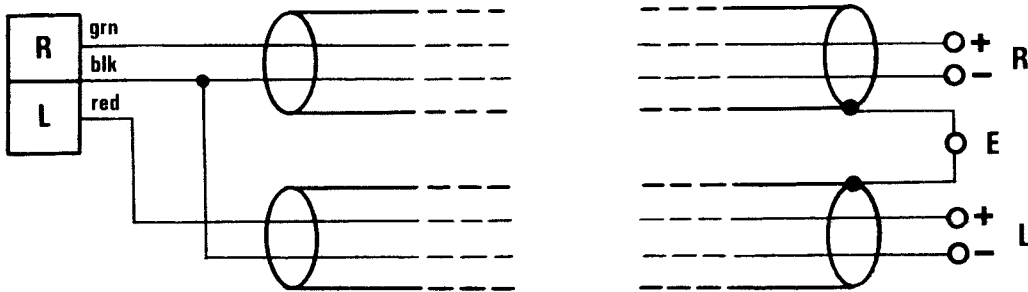

Fig. 2.12 Connection of cell using 2 x 2 - conductor cable
- (a) Install the stereo solar cell assemblies on the projectors. Accurate alignment of the cells is not important at this point. The cell wires are color coded, red for the left channel, green for the right and black for the common (see Fig. 2.12).